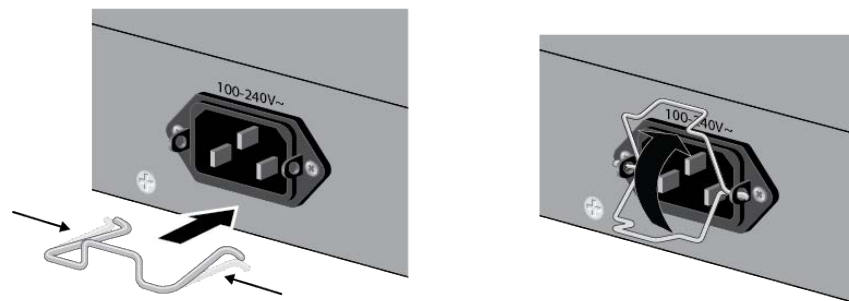

Figure 54. Installing the Power Cord Retaining Clip
1. For the GS950 PS V2 Series, install and raise the power cord retaining clip included with the switch, on the AC power connector. Refer to Figure 54.